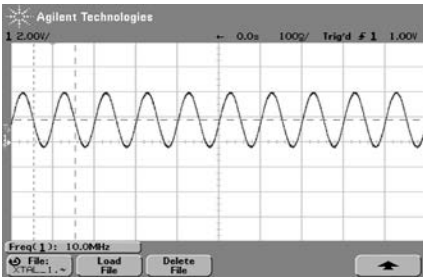

Figure 1.
3. Verify the operation of the crystal on Pin 30 of U6 (Figure 1, below) using a low capacitance x10 probe.